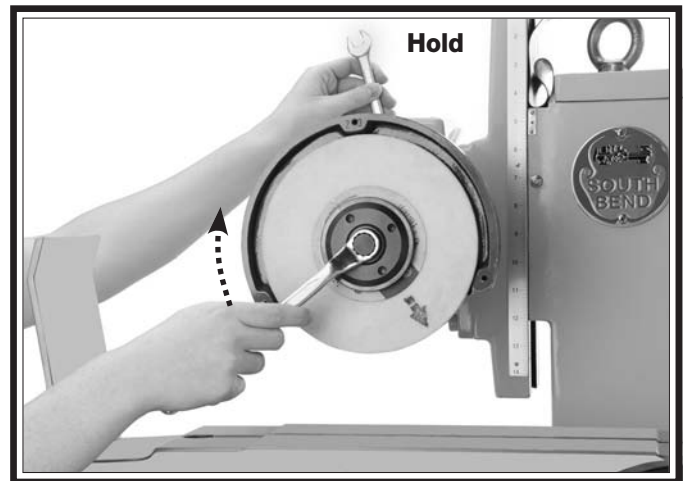

Figure 26. Pulling wheel hub.
8. While holding the wheel and hub from sliding off of the spindle, tighten the hub puller bolt until the wheel and hub assembly are pulled off the spindle as shown in **Figure 26**.